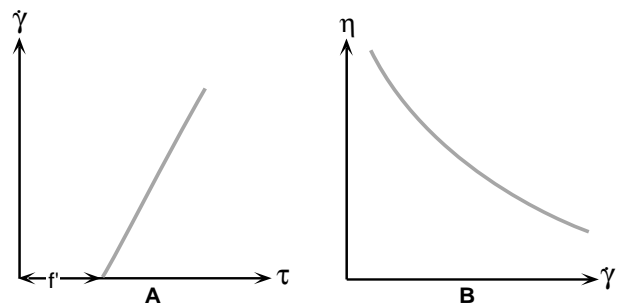

Figure 4-5
**PLASTIC:** This type of fluid will behave as a solid under static conditions. A certain amount of stress must be applied to the fluid before any flow is induced; this stress is called the "yield stress" ( $\tau'$ ). Tomato catsup is a good example of this type fluid; its yield value will often make it refuse to pour from the bottle until the bottle is shaken or struck, allowing the catsup to gush freely. Once the yield value is exceeded and flow begins, plastic fluids may display Newtonian, pseudoplastic, or dilatant flow characteristics. See Figure 4-5.